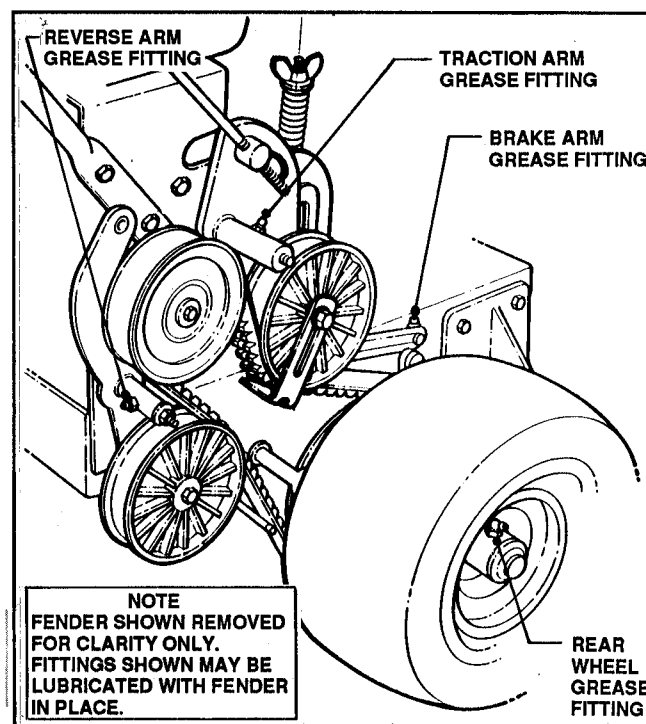

FIGURE 15
- **BRAKE, TRACTION & REVERSE ARM ASSEMBLIES:** Lubricate through fittings with bearing grease from a pressure gun. See Figure 15.
- **REAR WHEEL BEARINGS:** Lubricate through fittings with bearing grease from a pressure gun. Refer to Figure 15.